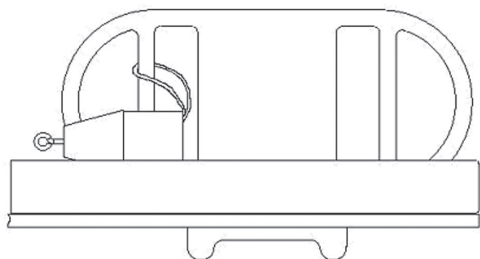

Figure 7a: Test 3, between mattress and inside of rail.
3. Put the cone horizontally in the gap. Do not push the tool down into the gap (figure 7a).